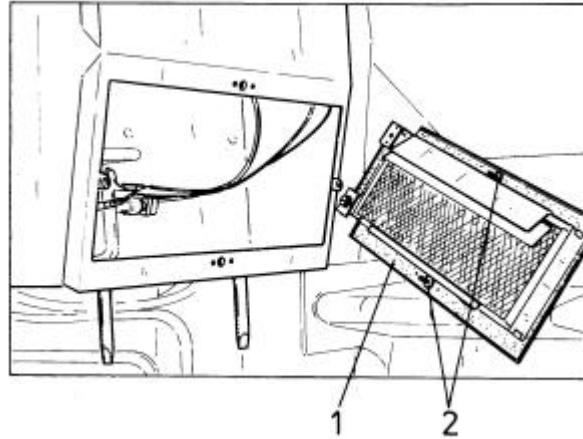

Fig. 5.51. Outside Filter
5.22.2. OUTSIDE FILTER (Fig. 5.51)